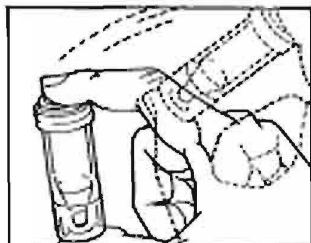

Figure 22. Mixing Stain and Sediment.
- c. Recap. Place index finger on cap and thumb on bottom of tube. SHAKE VIGOROUSLY 4 to 6 times to insure thorough mixing. Terminate shaking with tube in an upright position (Figure 22). As an alternate procedure, flick bottom of tube with fingernail or against edge of table to obtain thorough mixing. PROCEED TO STEP (d) WITHOUT DELAY.